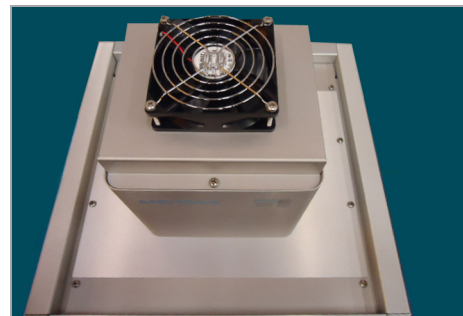

Figure 5. Lamp/Adapter Plate Assembly Installed on the Light Shield
7. Install the Lamp/Adapter Plate Assembly to the Light Shield. Secure both assemblies together with the previously removed M4 x 8 mm screws (Figure 5).